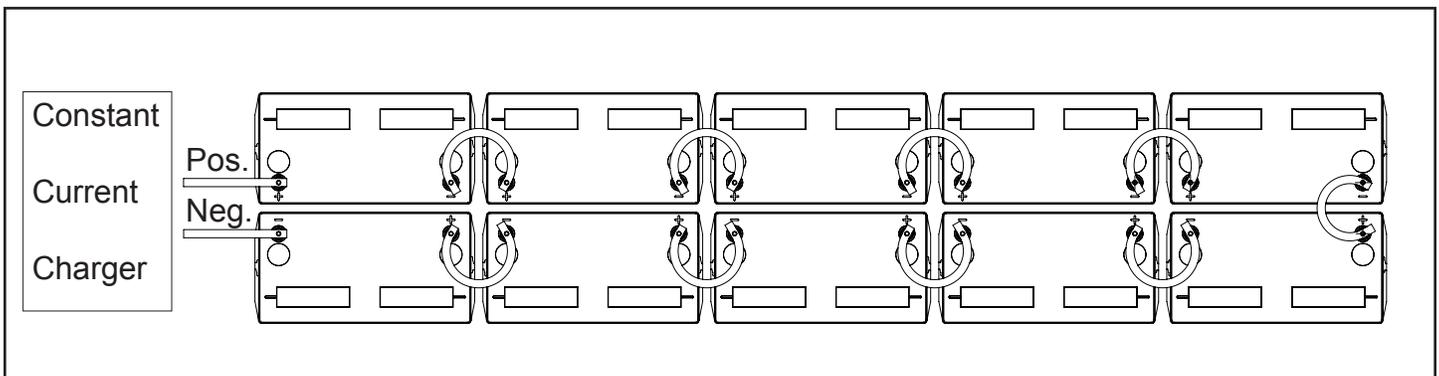

Figure 4
**Constant Current Charging** – Many distributors of lead acid batteries have adjustable constant current chargers which are used to maintain their inventory of automotive batteries. These are usually capable of charging up to 10 of the 12 volt or 20 of the 6 volt batteries connected in series as shown in figure 4.